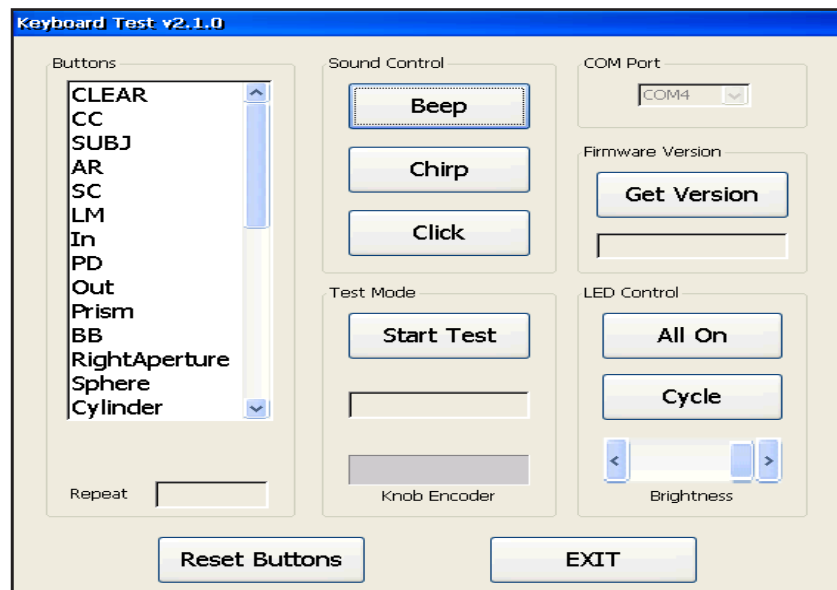

Figure IS-35, Keyboard Test Screen
1. Tap **Keyboard Test** to begin the test, which ensures that all of the Keypad buttons function properly. Refer to Figure IS-35.